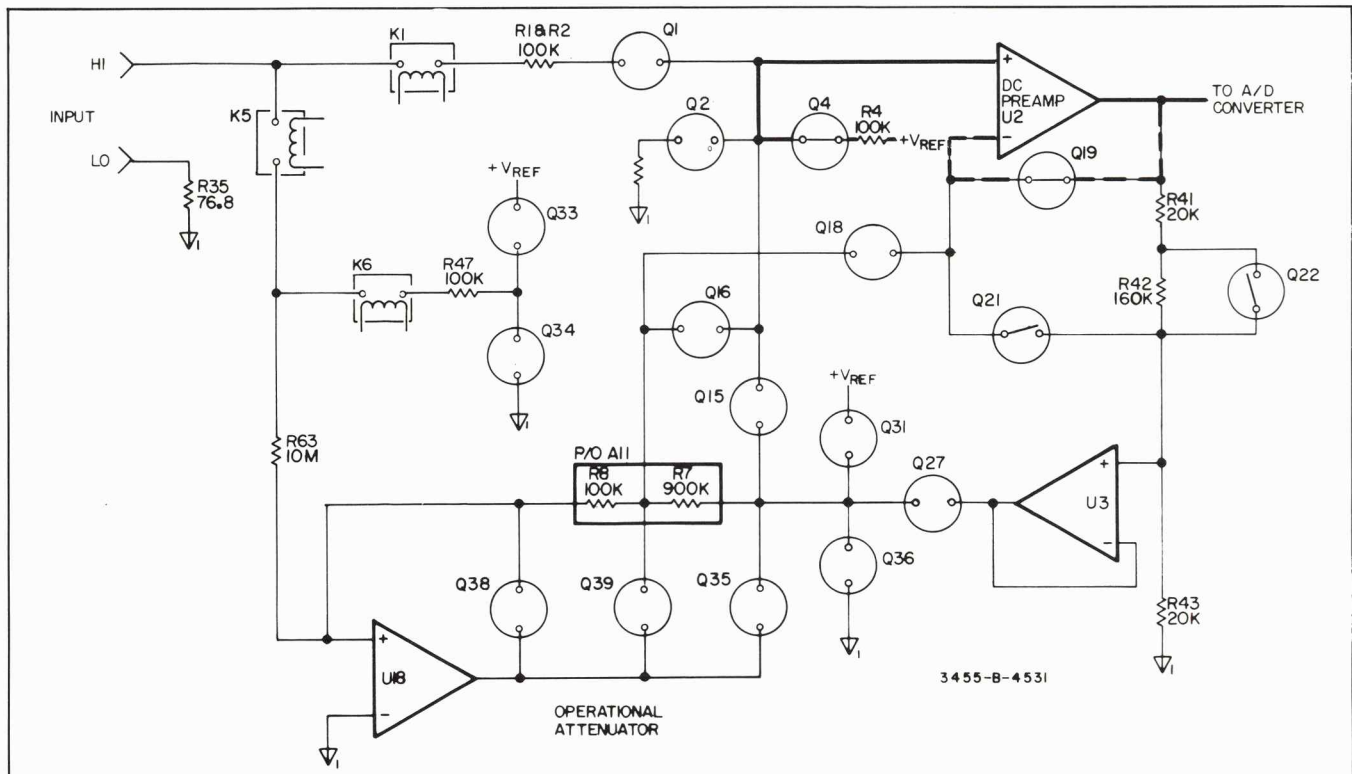

Figure 8-10. 10 V dc Gain Error Measurement.
**8-27. 10 V dc Gain Error Measurement.** On the 10 V dc range the gain error measurement is made by applying the internal reference voltage (+ 10 V dc), through a 100 kilohm resistor and FET switch A10Q4, to the input of the DC Preamp (see Figure 8-10). A DC Preamp gain of X1 is selected by FET switch A10Q19. The measurement result is stored by the main controller as the 10 V dc full scale constant.